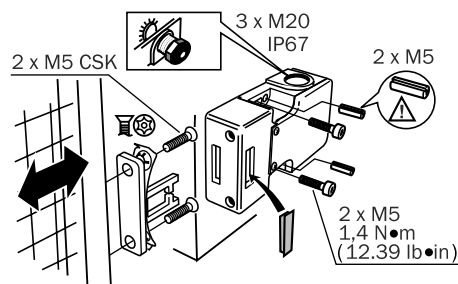

Figure 1: Mounting safety switch
- ▶ Tighten the safety switch using 2 × M5 screws to 1.4 Nm (see figure 1).